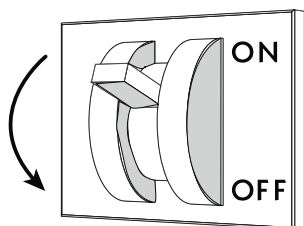

Fig. 21
- Disconnect the power supply to the cabinet using the wall-mounted main switch-disconnector ("Fig. 21").